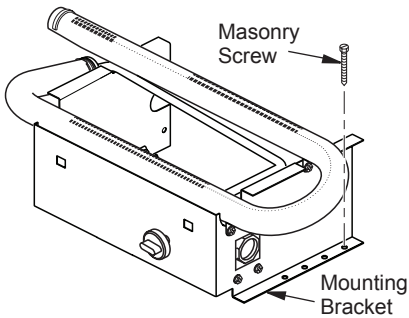

Figure 12 - Attaching Base to Fireplace Floor
7. Mark screw locations through one hole on each side of the mounting bracket (see Figure 12, page 14). If installing in a brick-bottom fireplace, mark screw locations in mortar joint of bricks.